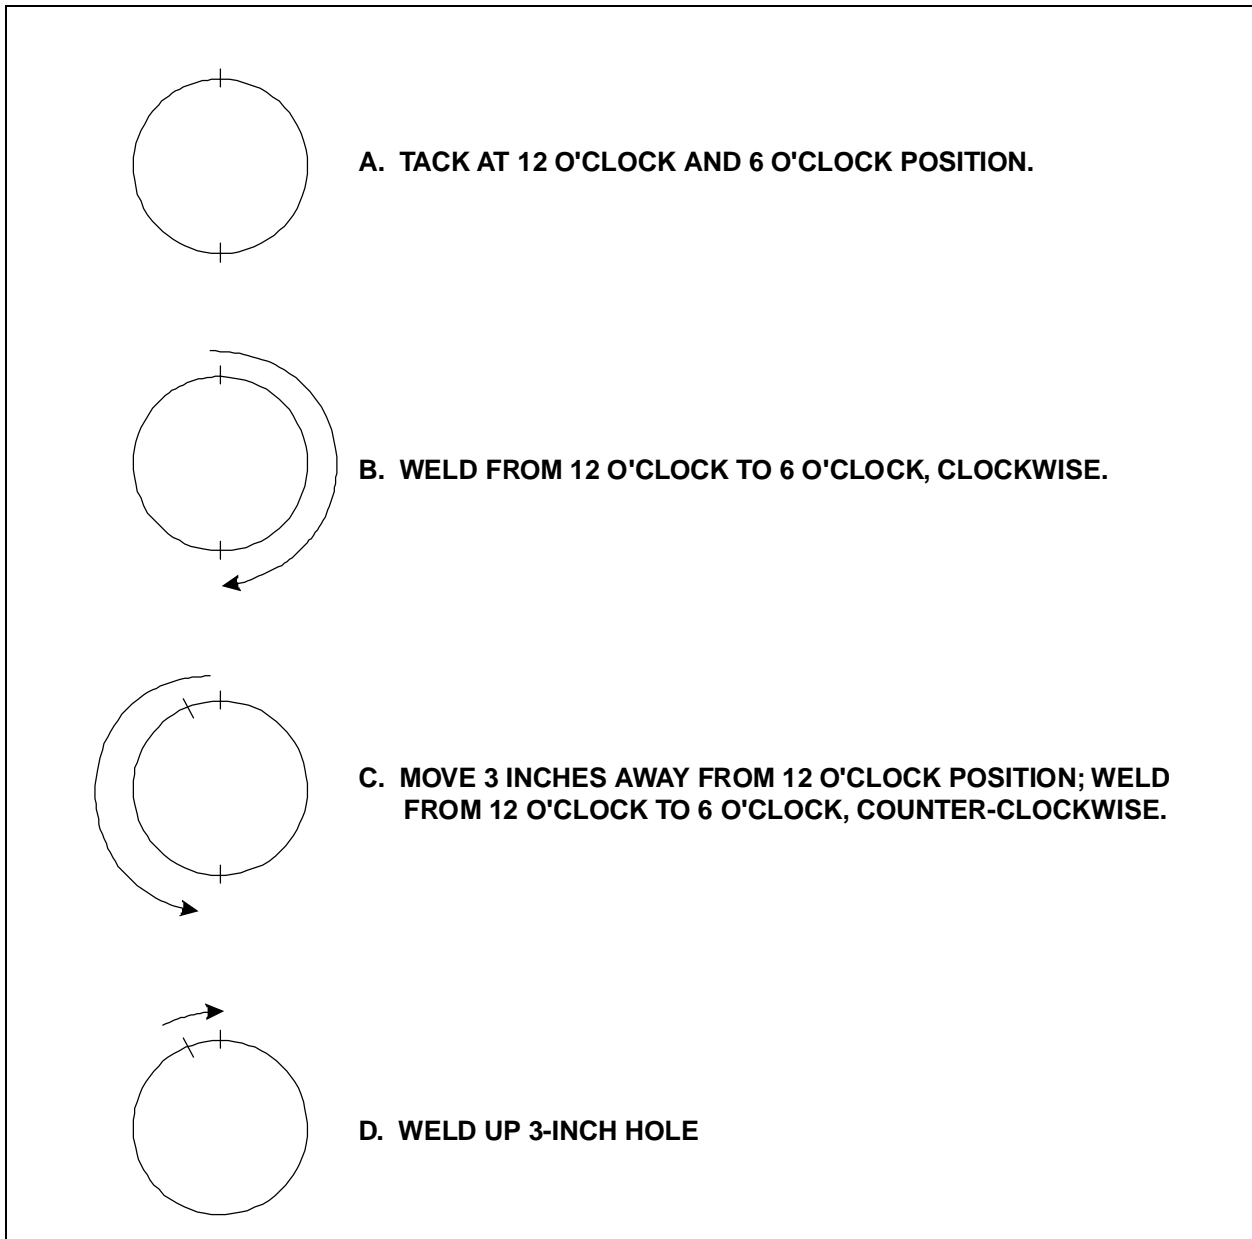

Figure 3-9. Repair Methods for Cracks in Underwater Structures Using a Circular Patch.
**3-13.2 Using a Circular Patch.** The following procedure is recommended for repairing cracks in underwater structures using a circular patch. Figure 3-9 illustrates this procedure.